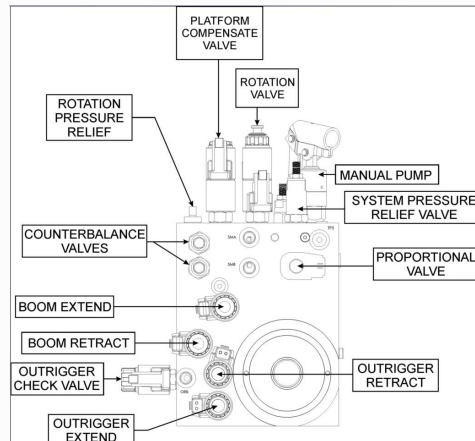

Figure 1.2
5. Rotate the hydraulic power unit to provide easier access to the hoses and plugs attached to the pump. Tag and number all hydraulic hoses that attach to the hydraulic power unit. Use a marker to label where each of the hose attaches. Refer to figure 1.2 and 1.3.